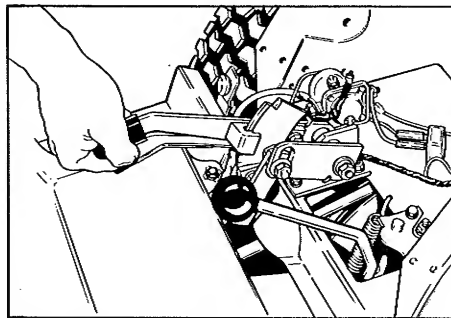

Figure 28. Grasping Upper Handle
11. Place the speed control lever all the way down in low speed position. Then grasp only the upper handle as shown in figure 28 and pull up firmly to lock the lever in position (use 35 to 40 lbs. of force).